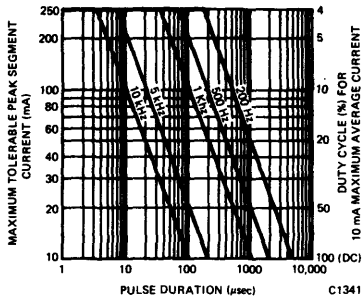

Fig. 1. Maximum Tolerable Peak Segment Current vs. Pulse Duration
- The corresponding maximum peak current per segment from Fig. 1 is 250 mA. The intersection of 500 HZ and 62.5 μs pulse duration lies in the <4% duty cycle condition. $I_{\text{AVG}} = 250 \text{ mA} \times .03125 = 7.8 \text{ mA}$ which is the maximum average current for operation at T_A (ambient temperature) = 25°C .